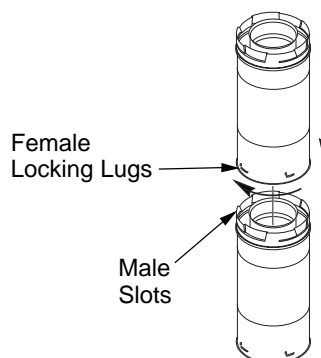

Figure 8 - Vent Pipe Connections
**Twist-Lock Procedure:** The female ends of the pipes have locking lugs (indentations). These lugs will slide straight into matching slots on the male ends of adjacent pipes. Push pipe sections together and twist one section clockwise approximately one-quarter turn until the sections are fully locked (see Figure 8). **Note:** Horizontal runs of vent must be supported every three feet. Use wall straps for this purpose.
2. Assemble the desired lengths of pipe and elbows necessary to reach from the fireplace flue up through the firestop. Be sure all pipe and elbow connections are fully twist-locked (see Figure 8, page 8).